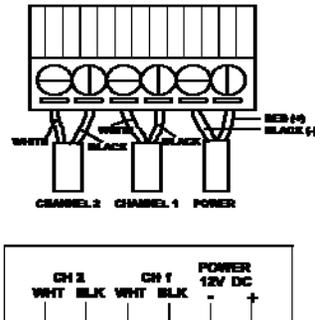

Figure 7-1. Meter connections
- Install the wires into the green meter connector and snugly tighten each terminal. Use Figure 7-1 as a guide.